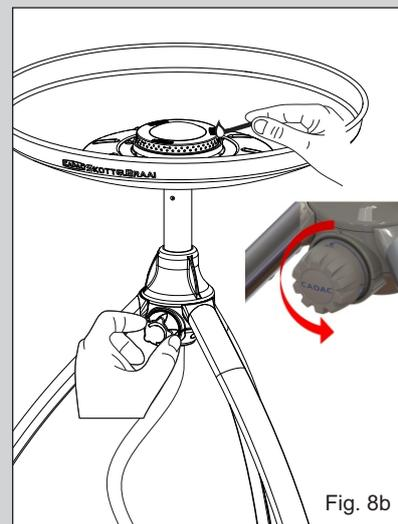

Fig. 8b
- To light the appliance, light a match or barbecue lighter. Open up the Control valve slightly (K) as described under 'General' and light the appliance Burner (G). When starting cold, the appliance may be lit from the top (See Fig.8b) prior to fitting the desired cooking surface onto the Burner Pan (F).